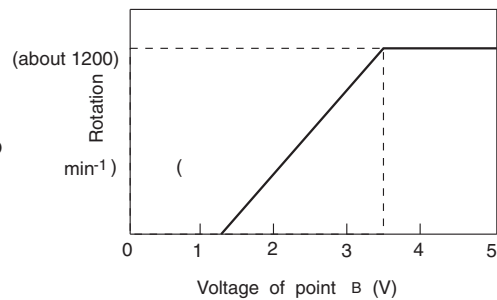

Fig. 3-3
- This pulse changes to analog voltage by R751 and C751 and it is applied to the fan motor as instruction voltage number of rotations. The relationship between the voltage of point B and number of rotations becomes as shown in Fig. 3-3. (The gap may arise depending on the condition of unit.)